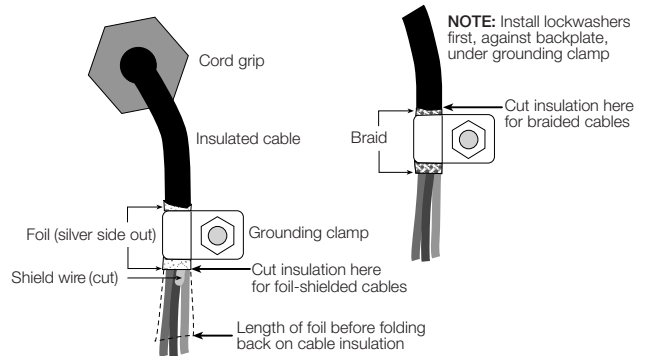

Figure 2-2. Grounding Clamp Attachment for Foil-Shielded and Braided Cabling
- For cables with foil shielding, strip insulation and foil from the cable half an inch (15 mm) past the grounding clamp (see Figure 2-2). Fold the foil shield back on the cable where the cable passes through the clamp. Ensure silver (conductive) side of foil is turned outward for contact with the grounding clamp.
- For cables with braided shielding, strip cable insulation and braided shield from a point just past the grounding clamp. Strip another half inch (15 mm) of insulation only to expose the braid where the cable passes through the clamp (see Figure 2-2).
- Route stripped cables through cord grips and clamps. Ensure shields contact grounding clamps as shown in Figure 2-2. Tighten grounding clamp nuts.